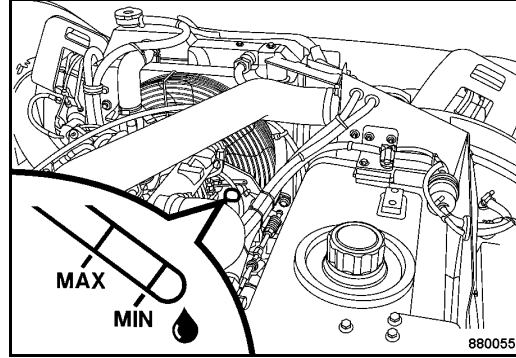

Fig. 138
- After a short test run check the oil level once again (Fig. 138), if necessary top up to the top mark (MAX).